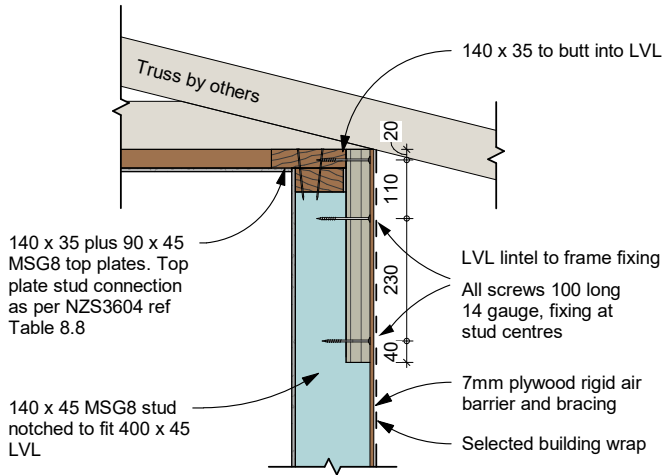

Fig 5: 140mm framing detail (preferred)
- ➡ For 140x45mm framing, a 90x45mm top plate is fixed 35mm below top of LVL, as shown in Fig 5.